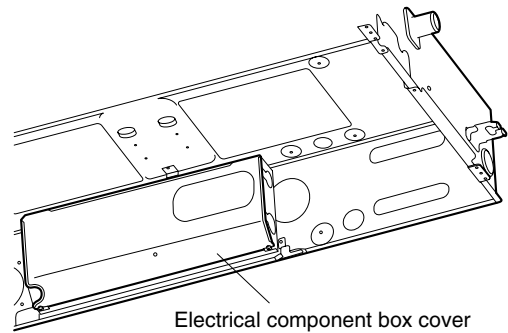

Fig. 9-9
- (1) Remove the cover from the electrical component box. (Fig. 9-9)